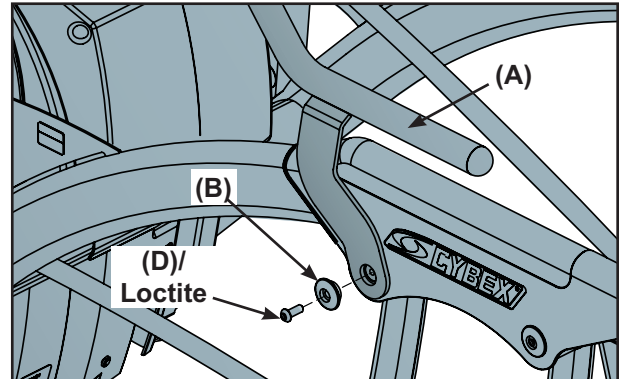
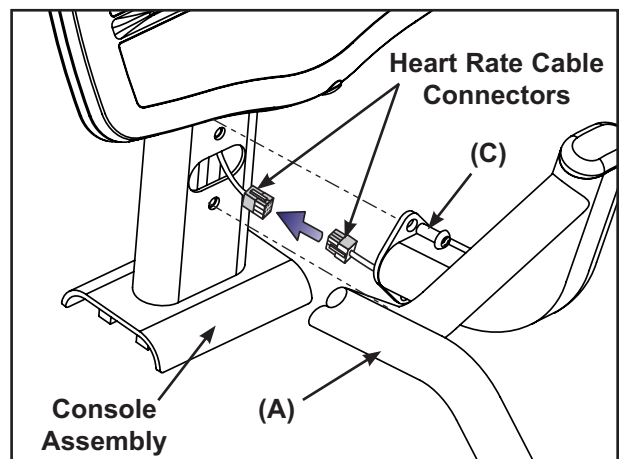

Figure 2
Figure 3
- A. Using a 7/32" Allen wrench, remove the Button Head Socket Cap Screw (BHSCS) (D) and pivot shaft retainer (B) from each side of the handle assembly. See Figure 2.
- B. Using a 7/32" Allen wrench, remove the two BHSCS (C) securing the handle assembly (A) to the console assembly. See Figure 3.
- C. Unplug the heart rate cable connectors. See Figure 3.
- A. Plug the heart rate cable connectors together. See Figure 3.
- B.** Using a 7/32" Allen wrench, attach the two BHSCS (C) securing the handle assembly (A) to the console assembly. See Figure 3.
- C.** Place a drop of loctite (E) on the BHSCS (D) and another drop inside the shaft into where the BHSCS will be tightened.
- D.** Using a 7/32" Allen wrench, attach the BHSCS/loctite (D) and pivot shaft retainer to each side of the handle assembly. See Figure 2.